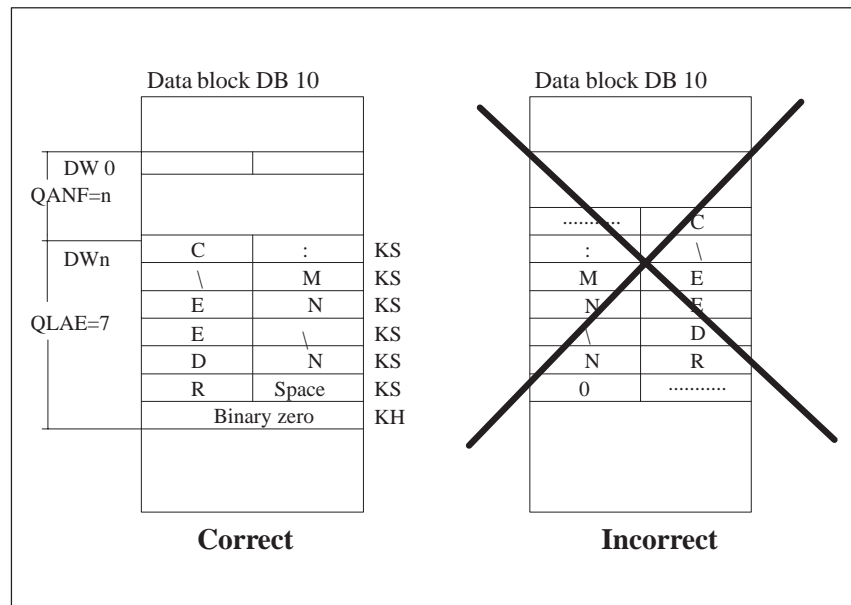

Figure 8-6 Storage of Path Name in a Data Block
- Offset of 1st data word with the path name (the path name must commence at a **word limit**, see Figure 8-6).